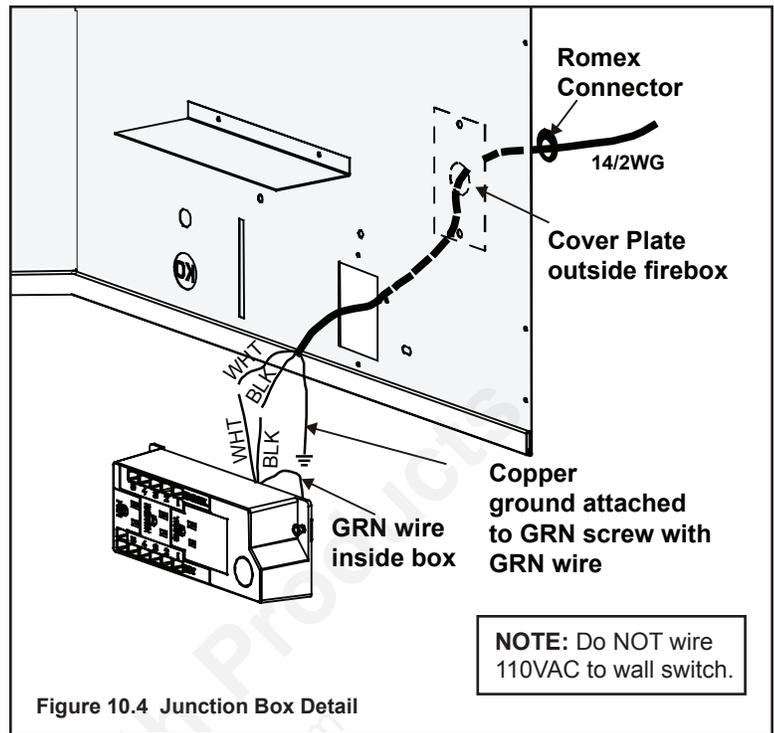

Figure 10.4 Junction Box Detail
- It is recommended that a 110 VAC junction box be installed for use with a fan or remote control. (See Figure 10.4 for junction box wiring).
- Remove the screw attaching the junction box to the outer shell, rotate the junction box inward to disengage it from the outer shell (see Figure 10.4).